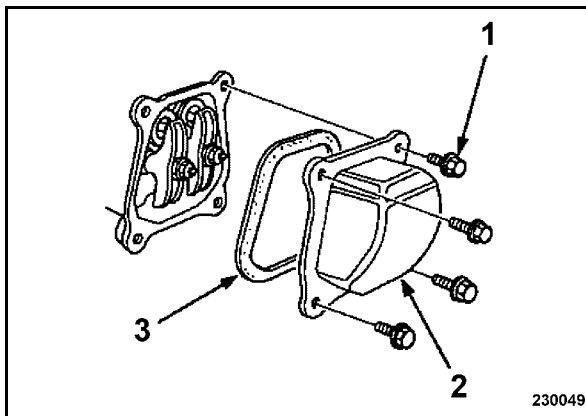

Fig. 60
- Loosen the screws (1) (Fig. 60) and take off the valve cover (2) with gasket (3).